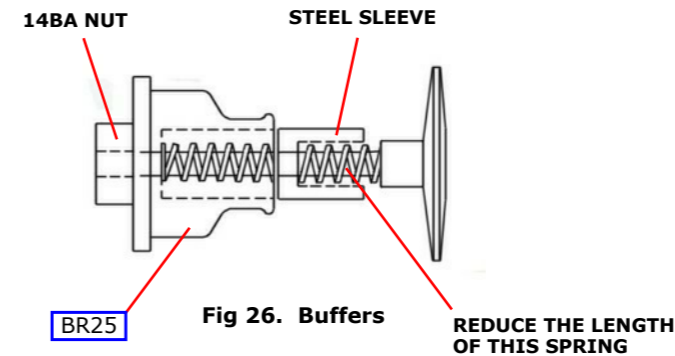

Fig 26. Buffers
**Buffers, hooks & hoses.** Assemble the buffers as shown in Fig.26 and attach to the front buffer beam, add the Vacuum brake hose (NS8) to the front buffer beam and attach the hook of your choice. An etched hook is supplied in the kit (FO43) if you wish to use it.